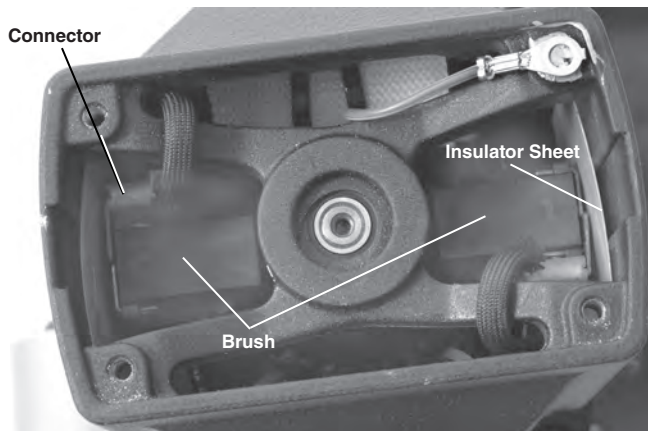

Figure 27 - Brush Placement - Motor Cover Removed
3. Using a pair of pliers, pull the motor brushes straight out. Detach the connector. (*See Figure 27*)